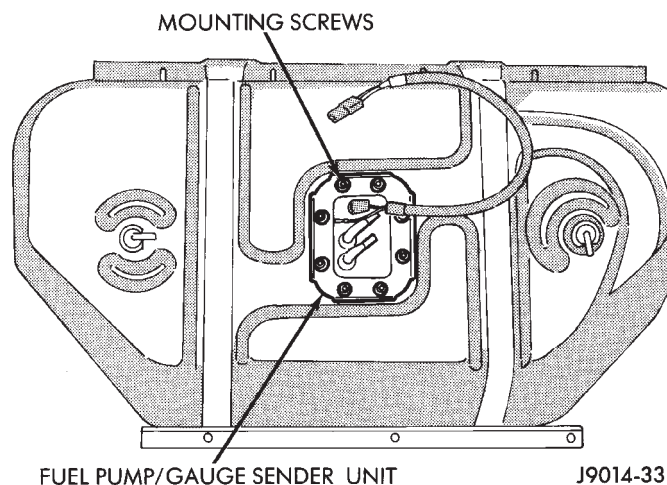

Fig. 4 Fuel Pump Module—Remove/Install—YJ Models
- (1) Remove negative battery cable.
- (2) Remove fuel filler cap. Perform the Fuel Pressure Release Procedure as outlined in this group.
- (3) Remove fuel tank. Refer to Fuel Tank Removal—YJ Models.
- (4) Remove fuel pump module assembly.
- (5) Remove mounting screws. Lift assembly and gasket out of fuel tank. Discard old gasket (Fig. 4).